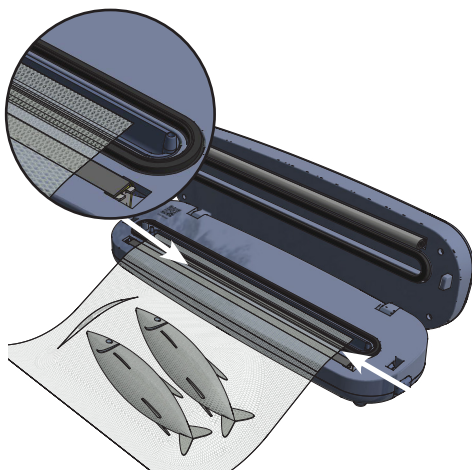

Figure 4: During the vacuum packing process, position the open edge of the bag in the middle of the vacuum channel.
- Position the open end of the bag into the vacuum channel between the sealing gaskets (see Figure 4).